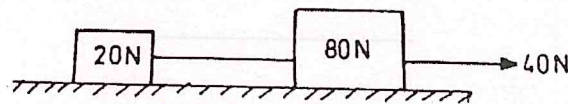

Fig Q 15 (a)
15. (a) Two weights 80 N and 20 N are connected by a thread and more along a rough horizontal plane under the action of a force 40 N, applied to the first weight of 80 N as shown in Fig Q 15 (a). The coefficient of friction between the sliding surface of the weights and the plane is 0.3. Determine the acceleration of the weight and the tension in the thread using work energy equation.